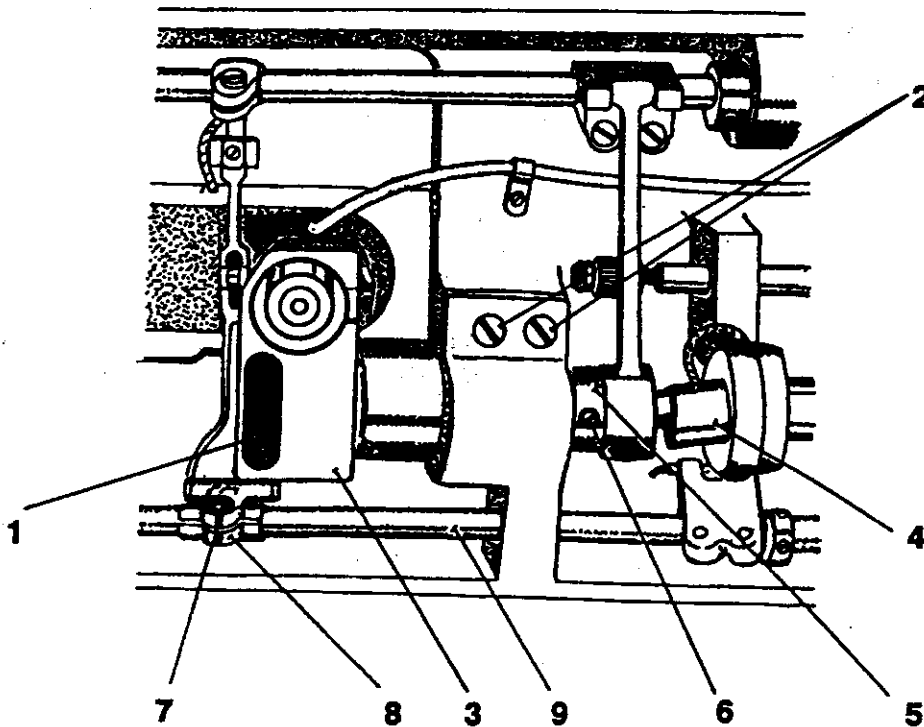
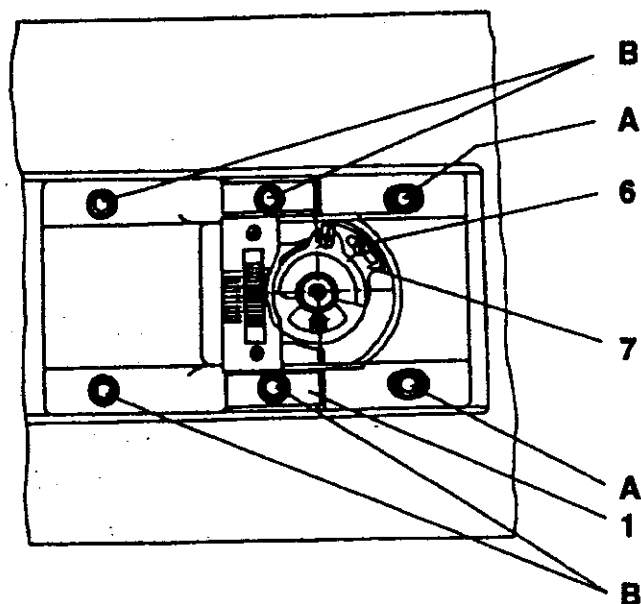

Fig. 11
Fig. 12
9. To adjust the hook course (Fig. 11)
10. To adjust opening hook (Fig. 12)
11. To adjust the distance between the hook point and the needle (Figs. 11, 12)
Loosen the two screws (2, Fig. 11) in the bed plate that fix the gear box (3). Remove the plug (1) outside the gear box. Then loosen the two screws in the gear box that fix the cog-wheel to the lower shaft and, finally, the two screws (A, Fig. 12) fixing the hook post bed. Then shift the gear box and the post bed of the hook so to obtain the distance not larger than 0.1 mm between the hook point and the needle which should touch lightly the hook guard, and retighten all the screws mentioned above. The plug (1, Fig. 11) is mounted into the gear box last.
15. To adjust elliptical path of feed-dog movement (Fig. 11)
16. To adjust medium post bed (Fig. 12)